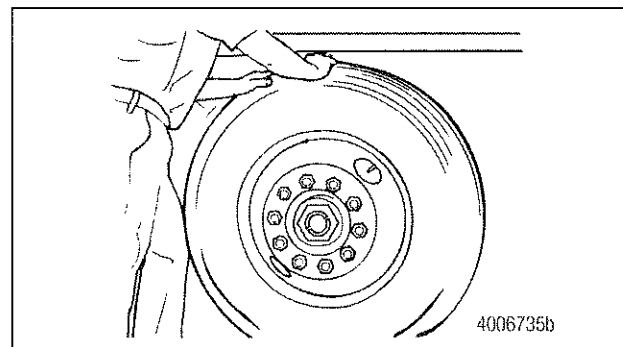

Figure 1
4. Grasp the tire and wheel-end assembly at the 12 and six o'clock positions. Check for vertical and horizontal movement. With your hands, apply approximately 50 lb (23 kg) of force to the assembly. You should not feel or see any looseness or movement. Figure 1.
5. Grasp the tire and wheel-end assembly at the 12 and six o'clock positions. Check for vertical and horizontal movement. With your hands, apply approximately 50 lb (23 kg) of force to the assembly. You should not feel or see any looseness or movement. Figure 1.